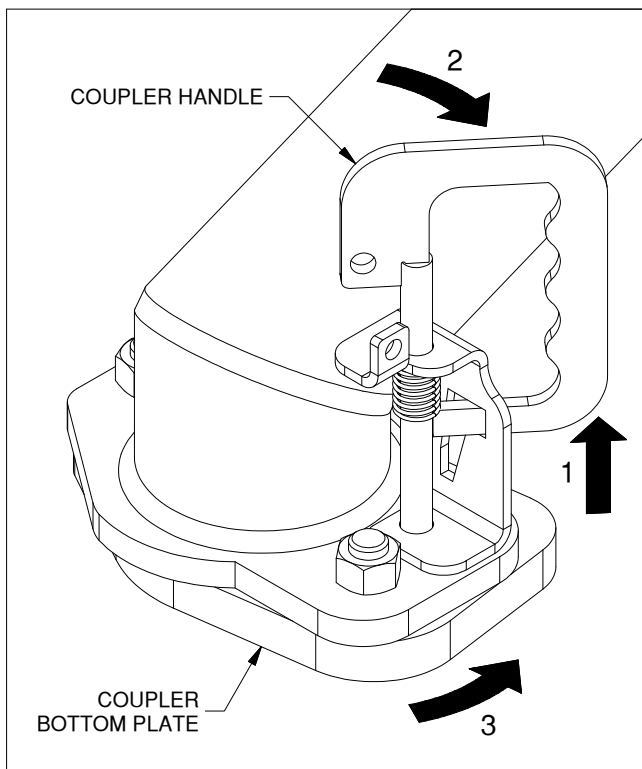

Figure B1: Coupler in "open" position
1. **Set coupler position.** Set the coupler to the "open" position. To do this, (1) grip the handle and pull straight up about 1", (2) rotate the handle clockwise until it stops, then release. (3) Rotate the coupler bottom plate counter-clockwise until it stops. See figure B1.
2. **Set the coupler position.** Set the coupler to the "open" position. To do this, (1) grip the handle and pull straight up about 1", (2) rotate the handle clockwise until it stops, then release. (3) Rotate the coupler bottom plate counter-clockwise until it stops. See figure B1.